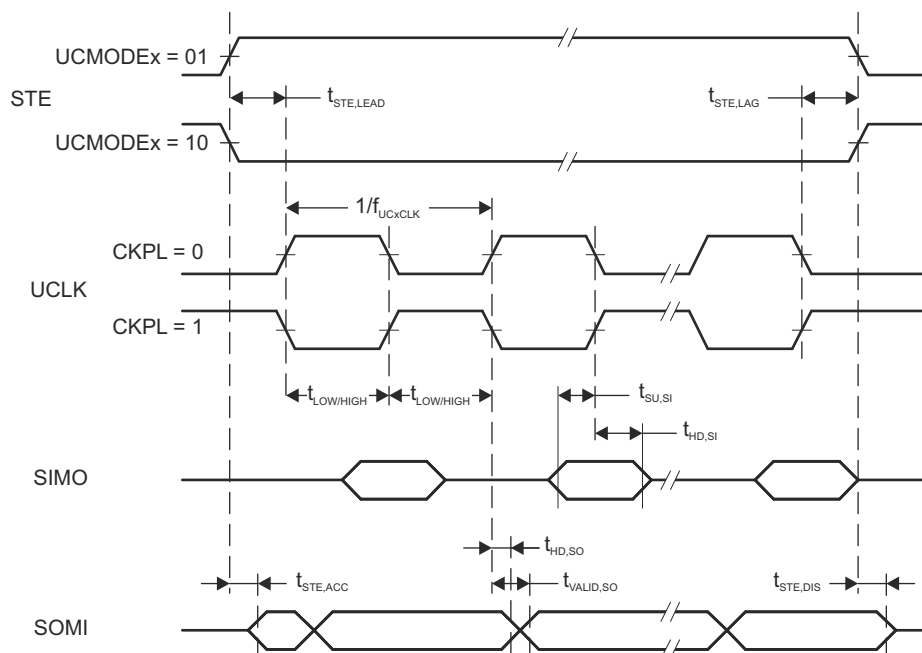
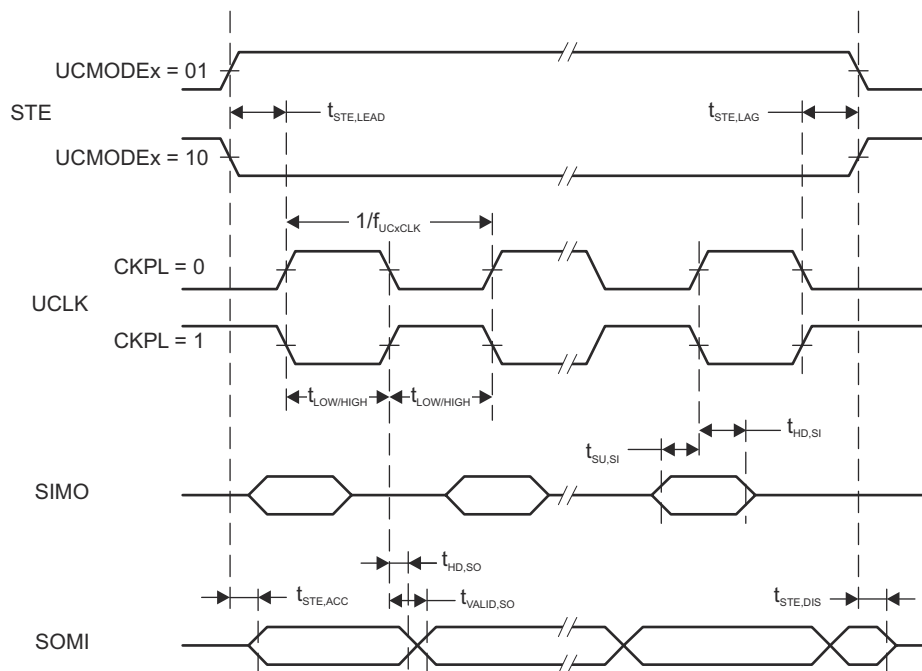

图 8-15. SPI Slave Mode, CKPH = 0
图 8-16. SPI Slave Mode, CKPH = 1
(2) Specifies the time to drive the next valid data to the SOMI output after the output changing UCLK clock edge. See the timing diagrams in 图 8-15 and 图 8-16.
(3) Specifies how long data on the SOMI output is valid after the output changing UCLK clock edge. Refer to the timing diagrams in 图 8-15 and 图 8-16.